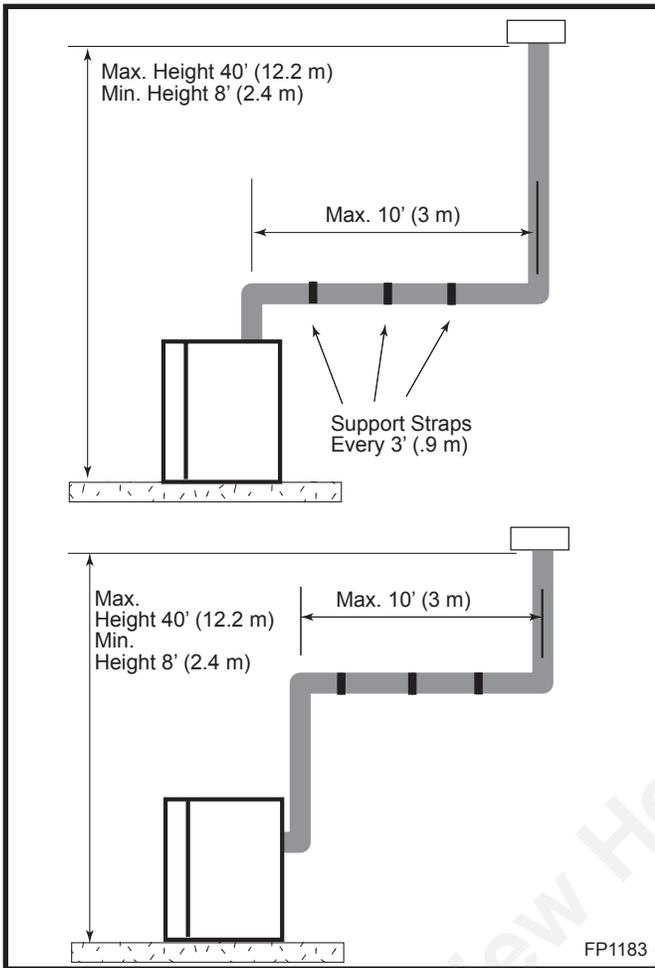

Fig. 40 Support straps for horizontal runs.
- Vertical installations up to 40' (12 m) in height. Up to a 10' (3 m) horizontal vent run can be installed within the vent system using a maximum of two 90° elbows. (Fig. 40)